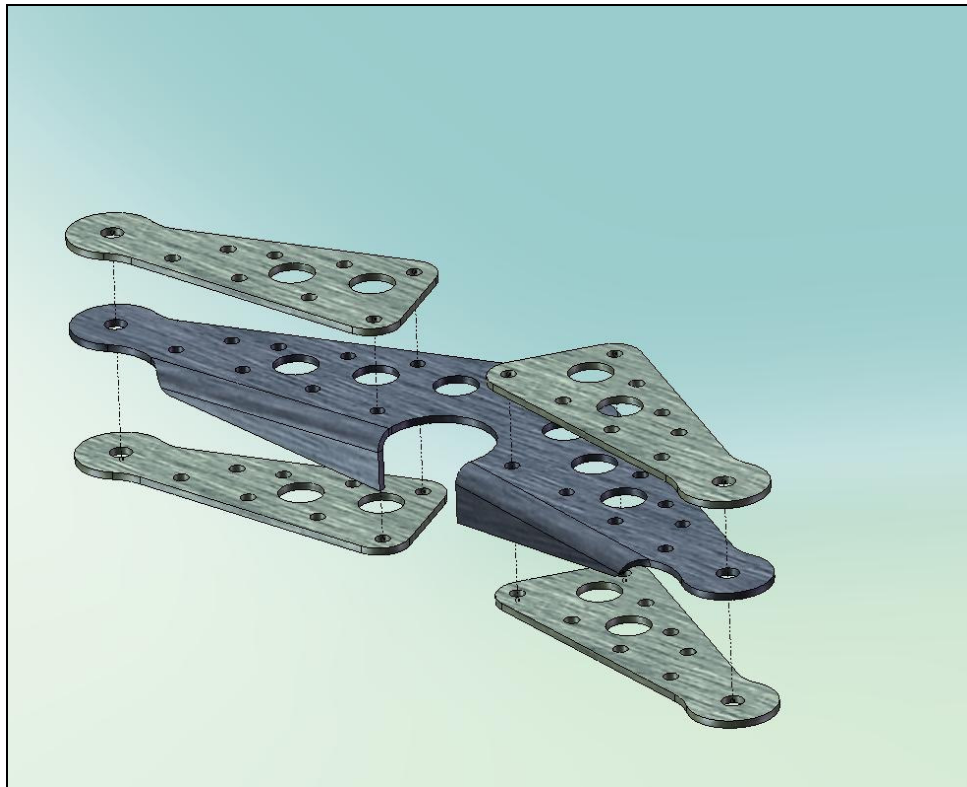

Figure 1
INSTRUCTIONS: Add two SC81211-001 rudder horn doubler to existing rudder horn (See Figure 1).
1. Align rudder horn holes with rudder horn doubler holes as shown in Figure 1. Secure rudder horn doubler to rudder horn by any means possible (pins, clamps, etc.).